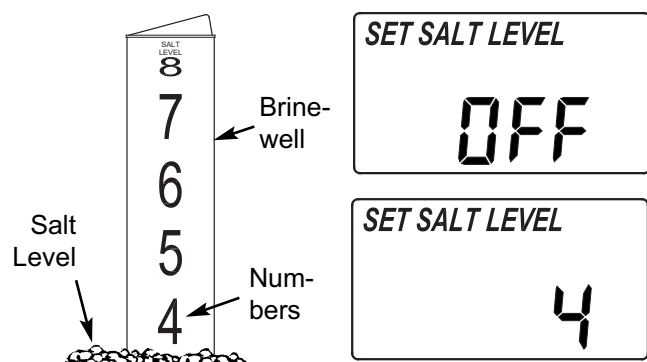

FIG. 32
2. The salt level scale, on the brinewell inside the tank, has numbers from 0 to 8 (See Fig. 32). Observe the highest number the leveled salt is at, or closest to.